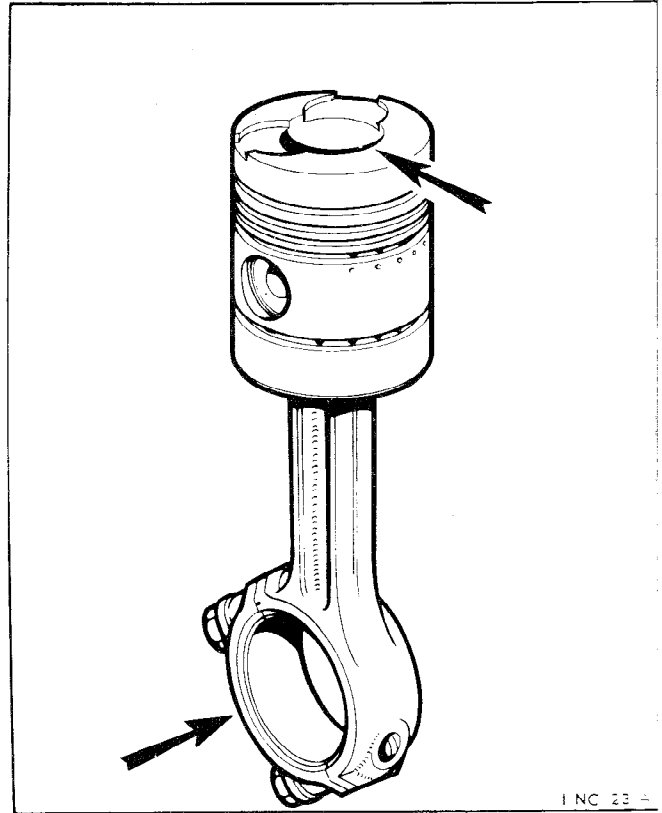

Fig. 1
5. Assemble the piston to the connecting rod with the valve clearance recesses to the cap side of the connecting rod as shown in Fig. 1. ●